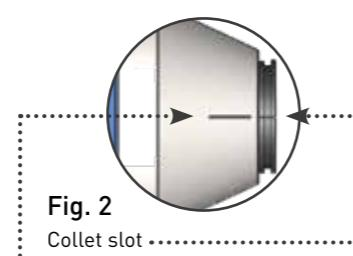

Fig. 2
3. Now turn the collet at least 1/4 turn counterclockwise until the next collet slot is aligned with the marking on the chuck (Fig. 2).